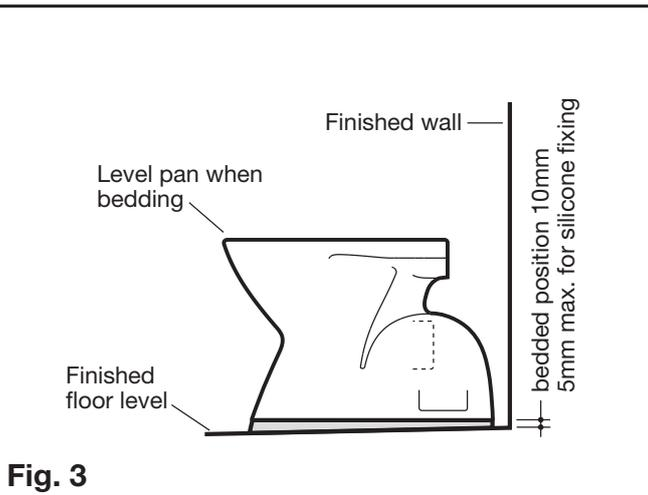

Fig. 3
4. Position pan and connect with pan connector then level pan into bedding mixture, so that the back of the foot of the pan is approximately 10mm above the finished floor as detailed in **Figure 3**. It is recommended that wedges are used to support the foot of the pan during the positioning.